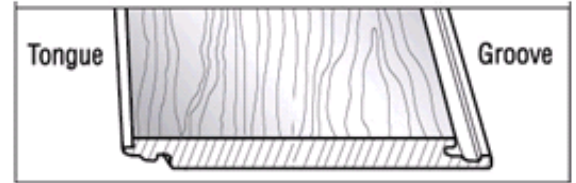

Fig. 8
2. Lay the first full piece with the small, tongue side facing the wall (Fig. 8).